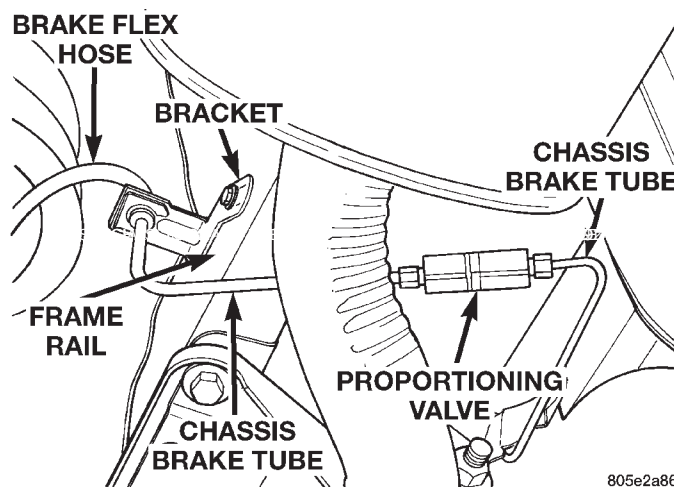

Fig. 21 Brake Flex Hose Bracket
(1) Road test vehicle to determine which rear wheel exhibits premature rear wheel skid.
(2) Remove the proportioning valve (Fig. 21) from the chassis brake tube.
(3) Remove the bracket (Fig. 21) attaching the brake flex hose to the side of the frame rail. Also, remove routing bracket attaching brake tube to bottom of frame rail.
(7) With the aid of a helper, apply pressure to the brake pedal until reading on proportioning valve inlet gauge, is at the pressure shown on the following chart. Then check the pressure reading on the proportioning valve outlet gauge. If proportioning valve outlet pressure does not agree with value shown on the following chart, when inlet pressure shown on chart is obtained, replace the proportioning valve. If proportioning valve is within pressure specifications do not replace proportioning valve.
(8) Remove the pressure gauges from the pressure test fittings.
(9) Remove the proportioning valve and the Pressure Test Fittings, Special Tool 6892 from the chassis brake tube.
(10) Install the bracket (Fig. 21) attaching the brake flex hose to the side of the frame rail. Also, install routing bracket attaching brake tube to bottom of frame rail.
(11) Install the proportioning valve in the chassis brake tube and hand tighten tube nuts until fully seated into proportioning valve. Tighten the tube nuts to a torque of 17 N·m (145 in-lbs.).
(12) Bleed the affected brake line. See Bleeding Brake System in the Service Adjustments section of the manual for proper bleeding procedure.
(13) Repeat steps 2 thru 14 for the other proportioning valve.
(14) Check rear wheel brake shoe linings for contamination or for replacement brake shoes not meeting OEM brake lining material specifications. These conditions can also be a possible cause for a premature rear wheel skid.